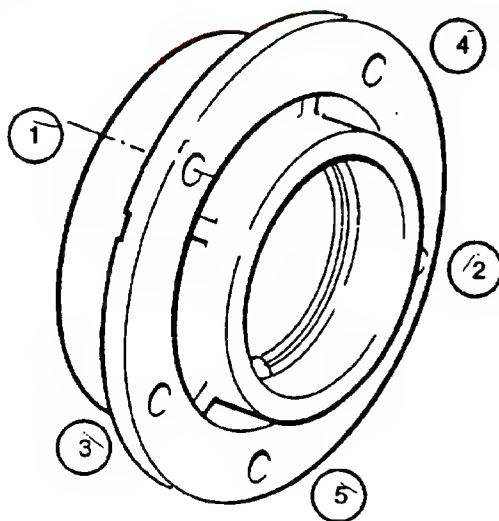

FIGURE 3-42. Bearing Housing Capscrew Tightening Sequence
- d. Position housing (3) with shim (4) on crankcase and secure with five capscrews (2). Tighten capscrews to 240 in-lbs (27.2 Nm) in sequence shown in FIGURE 3-42